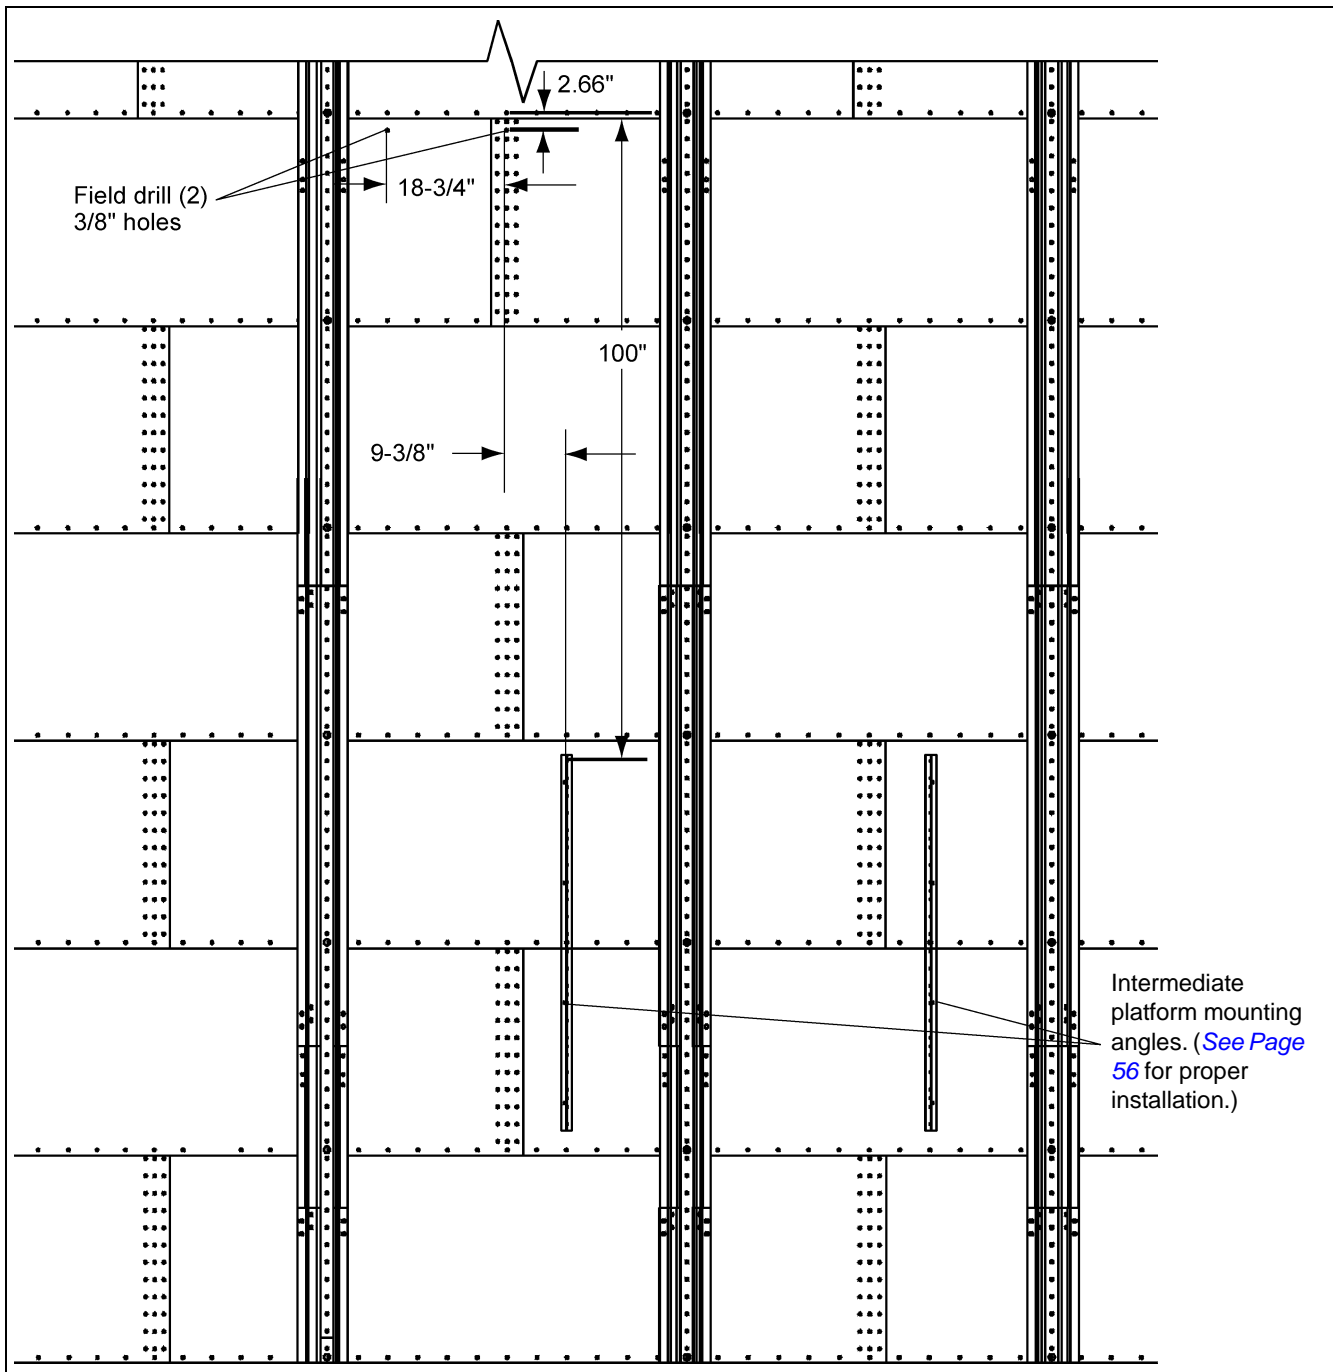

Figure 6T
Refer to Figure 6T for the proper location of the two (2)  $\frac{3}{8}$ " field drilled holes required to install the starter brackets.